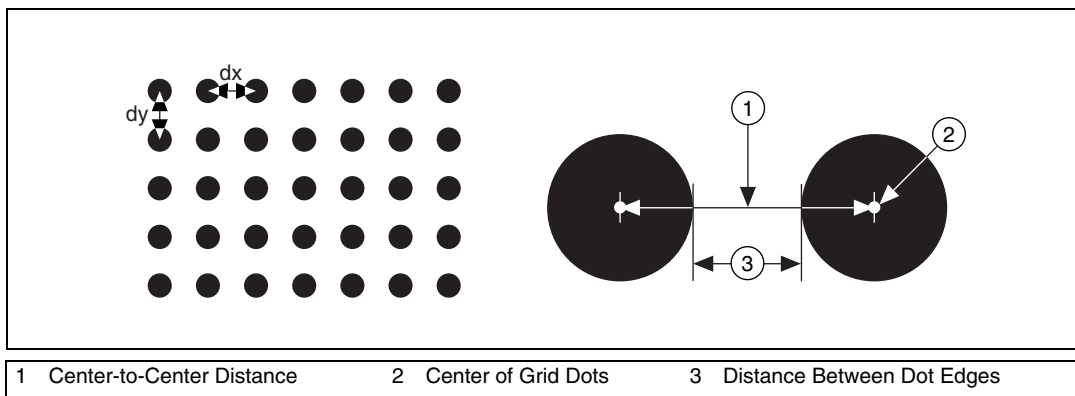

Figure 6-1. Defining a Calibration Grid
A calibration template is a user-defined grid of circular dots. As shown in Figure 6-1, the grid has constant spacings in the x and y directions. You can use any grid, but follow these guidelines for best results:
- The center-to-center distance between dots in the acquired image should range from 18 to 32 pixels, as shown in Figure 6-1.
- The minimum distance between the edges of the dots in the acquired image should be 6 pixels, as shown in Figure 6-1.